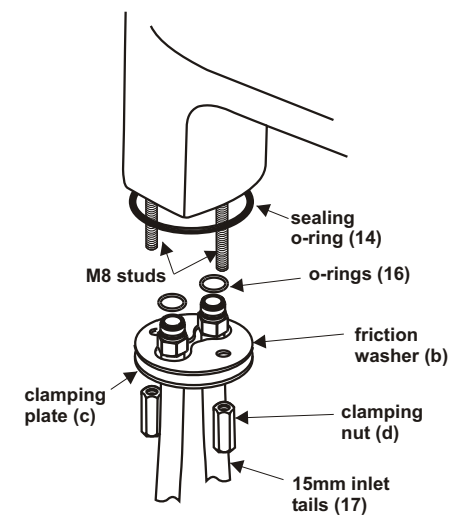

Figure 7 Fixation of bath monoblock
Tighten the clamping nuts. See figure 7.
Ensure the sealing o-ring (14) is seated correctly on top of the bath and the friction washer (b) and clamping plate (c) are placed against the underneath surface of the bath tap deck. Tighten the clamping nuts (d) until the fitting is secure. See figure 7.